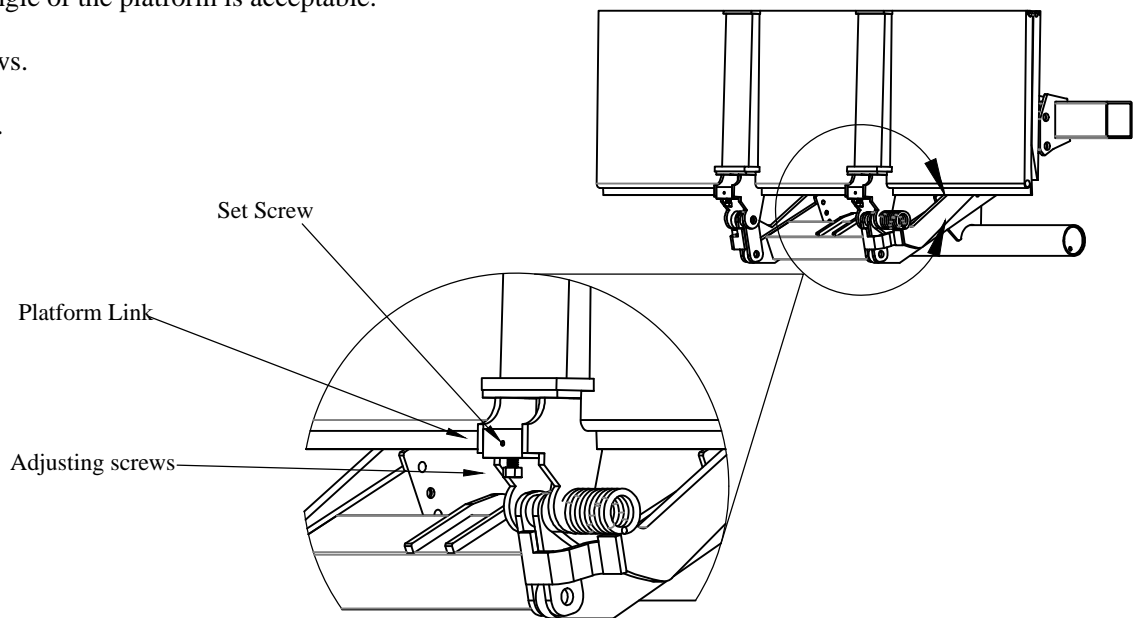

Figure 31: Platform Adjustment.
1. **Position** the liftgate so that the lift arms are touching the ground, but the platform is still folded (Figure 31).